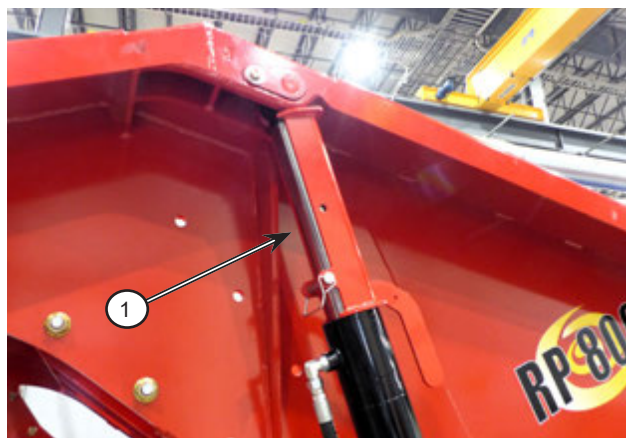

Figure 6.3: Remove the bucket lift locks
2. Remove the locking pins and bucket lift locks (1); see *Figure 6.3*.